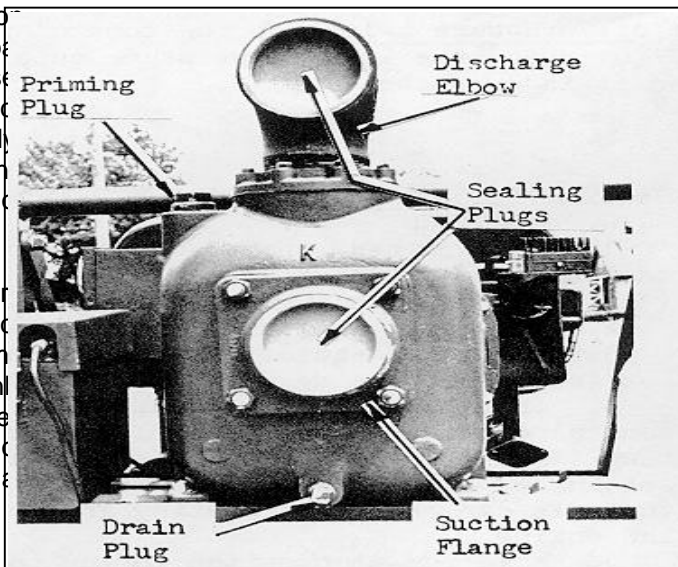

FIGURE 2-1. PRIMING & ATTACHMENT OF HOSE
A. **SUCTION LINE - CAUTION:** Attach a suitable strainer before operating pump. The pump inlet connection is a 4 in. NPT. Use 4 in. reinforced noncollapsible suction hose of rigid plastic, aluminum or steel pipe. Clean all threads and coat them with a pipe Joint compound or water-proof grease. Plastic sealing plugs are used in the suction and discharge ports for shipping purposes, and may be saved for future use. Remove sealing plugs and insert suction line into suction flange (fig. 2-1). All fittings and joints must be fully tightened and air tight. If suction line is not completely air-tight, the pump will not properly complete the priming cycle and deliver water. Install suction strainer at lower end of suction line to prevent debris and abrasive liquids from entering pump. Provide a settling bed to prevent sand from entering pump during surf operations. Slope line downward into water course without any kinks or humps to trap air. Submerge lower end of suction line in water source being careful to avoid any obstruction of the suction line or vortex because of insufficient submergence.
B. **DISCHARGE LINE -** The discharge connection (both the flange and elbow) is 4" NPT. Clean all threads & coat them with a pipe Joint compound or water-proof grease. Remove sealing plug and insert the discharge line (4" hose or pipe) into the discharge elbow (Fig. 2-1) and tighten securely. Avoid kinks so as to allow free upward escape of air being expelled during the priming cycle. Do not restrict any point of the discharge line while the pump is in the priming cycle.
2-8. **PRIMING OF PUMP** - Priming must be done before starting the engine, or the mechanical seal will be damaged or destroyed, preventing operation of the unit. Although the pump is generally referred to as a "self-priming" pump, it will only prime when the pump casing has a proper internal water level. To prime the pump, fill the casing with water after removal of the pipe plug atop the casing (Fig. 2-1). After the casing is at least 2/3 full replace the pipe plug and tighten completely.
- 1. Remove drain plug (Fig. 2-1) and drain pump casing, replacing drain plug after pump is drained.